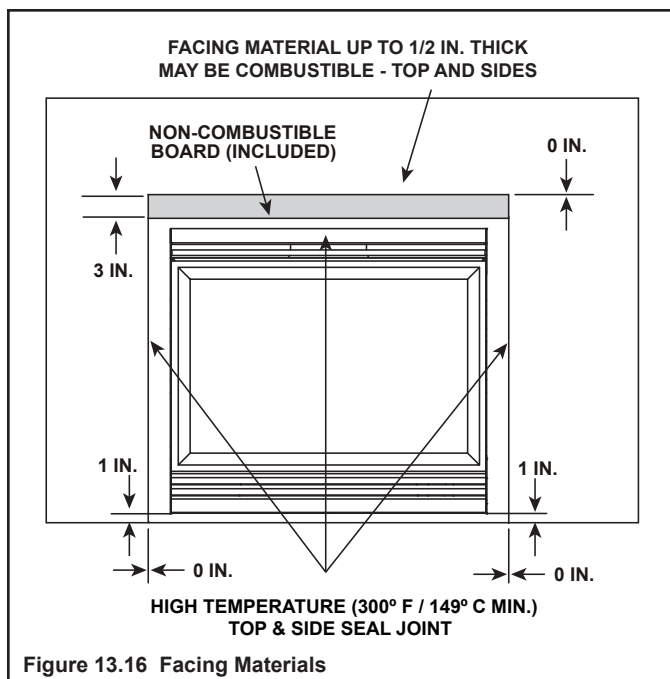

Figure 13.16 Facing Materials
- Seal joints between the finished wall and appliance top and sides using a 300 °F minimum sealant. Refer to Figure 13.16.